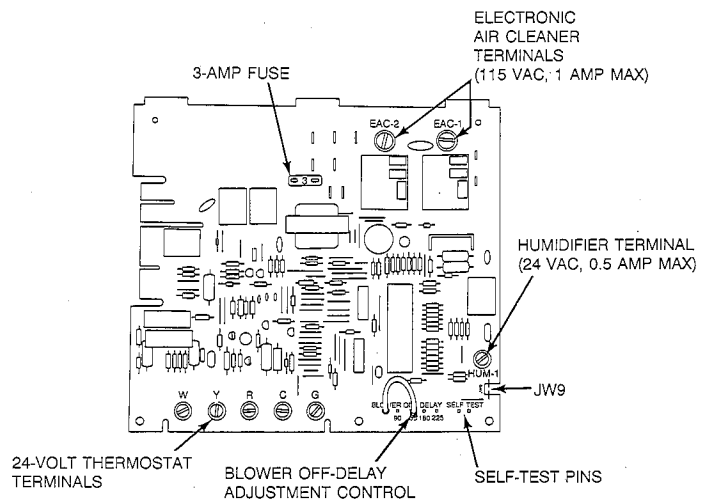
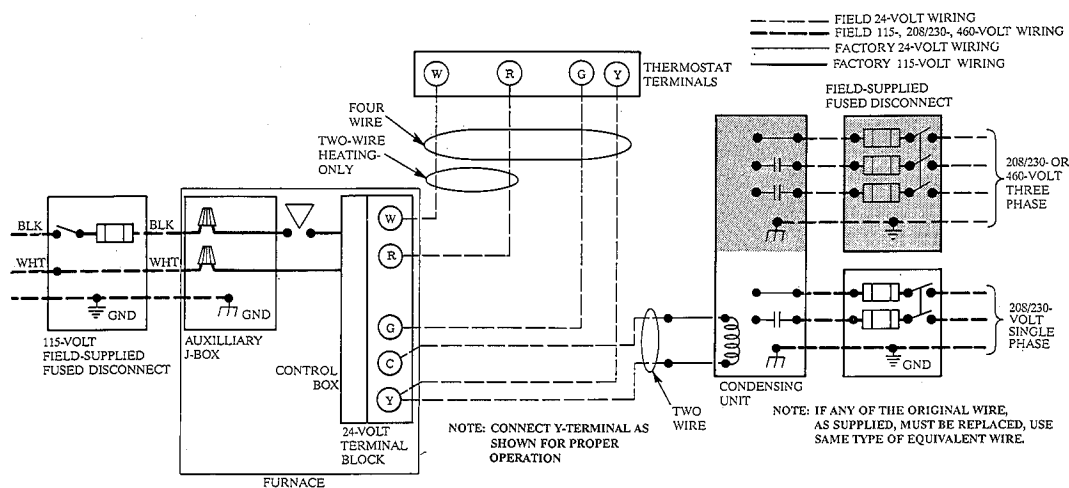

Fig. 11—Control Center A91060
Fig. 12—Heating and Cooling Application Wiring Diagram
24-VOLT WIRING — Make field 24-volt connections at the 24-volt terminal strip. (See Fig. 11.) Connect terminal Y as shown in Fig. 12 for proper operation in cooling mode. Use AWG No. 18 "color-coded" wire only.
1. Self-test—The furnace features a self-test system to help diagnose a system problem in the case of a component failure. Two test pins (ST-1 and ST-2) are located in the upper right-hand corner of the control board as shown in Fig. 11. To initiate the self-test procedure, momentarily short across the two pins (approximately 0.5 seconds).